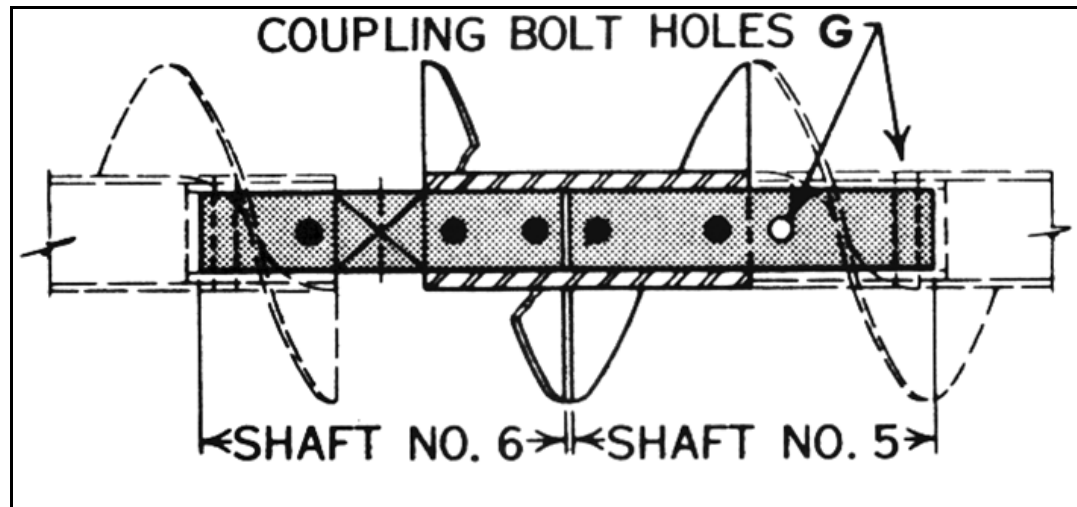
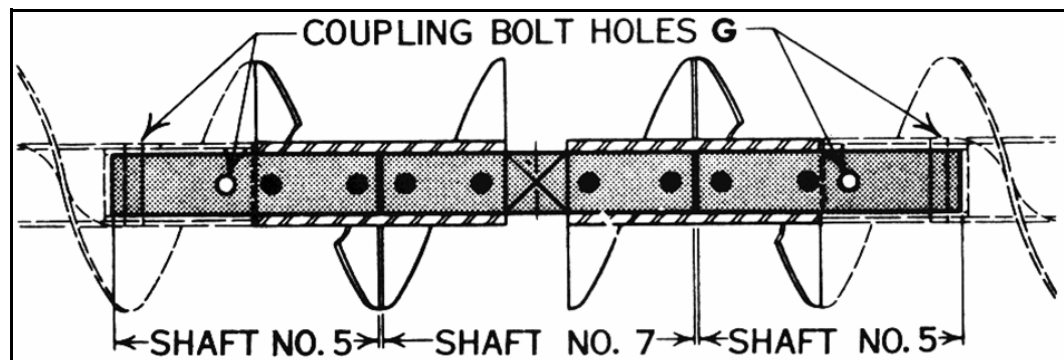

Figure 3.7 Split Flight Coupling Assembly A
Figure 3.8 Split Flight Coupling Assembly B
1. Assemble split flight couplings and shafts in accordance with Assembly A (Figure 3.7) or Assembly B (Figure 3.8) depending on assembly furnished.